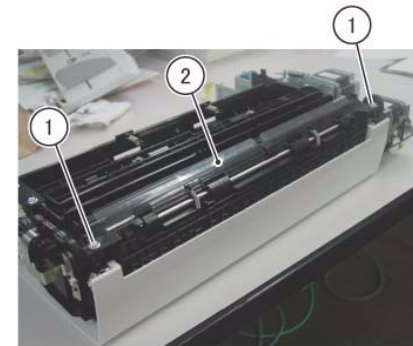

Figure 1 Remove the Reg Chute
9. Remove the Reg Chute. (Figure 1)